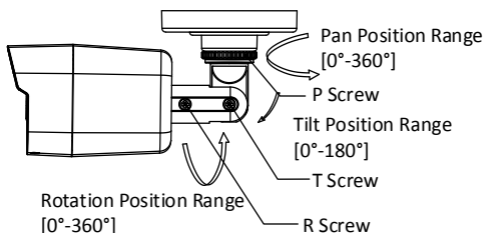

Figure 2-2 3-axis Adjustment
5. Adjust the camera according to Figure 2-2 to get an optimum angle.